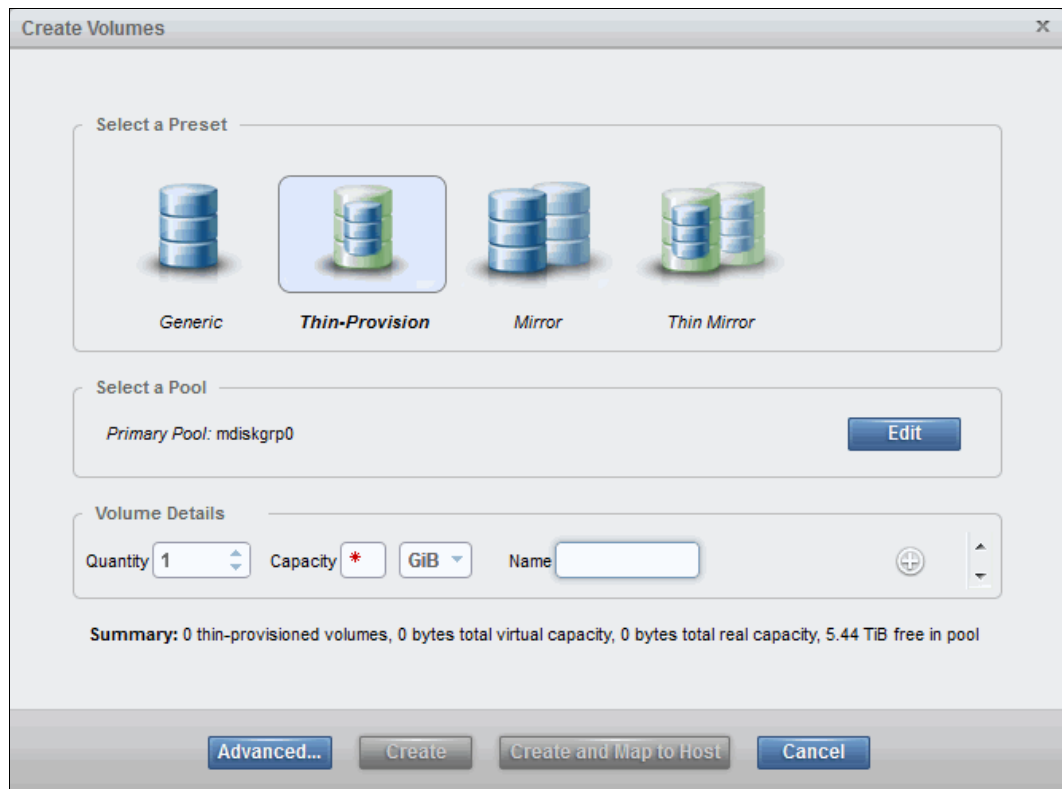

Figure 5-8 Creating thin provisioned volumes using the Create Volumes wizard
1. Select **Thin Provision** as the preset, as shown in Figure 5-8.
2. From the list shown in Figure 5-8, select a pool to provision storage from.
3. The view shown in Figure 5-8 opens. From here, you can choose how many volumes to create, the capacity of each volume, and what to name the volumes.